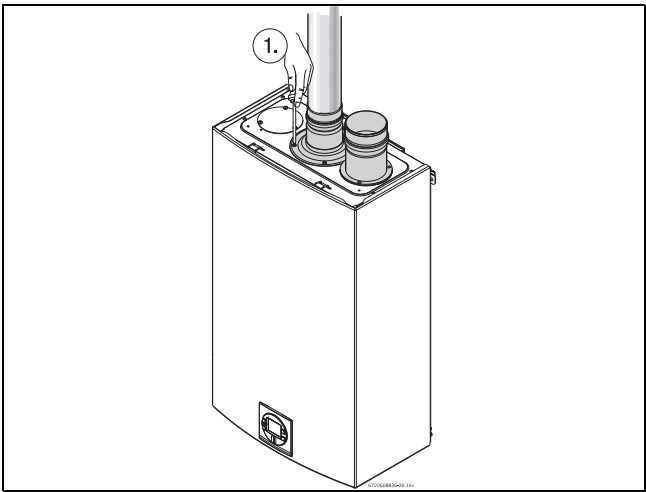

Fig. 20 Exhaust connection
- Attach the flue gas exhaust accessory to the top of the unit fig. 20 (position 1) using the 4 screws and gasket provided, and fully insert vent pipe into the accessory. If using 4" venting, a 3" to 4" increaser should be installed directly after this accessory.